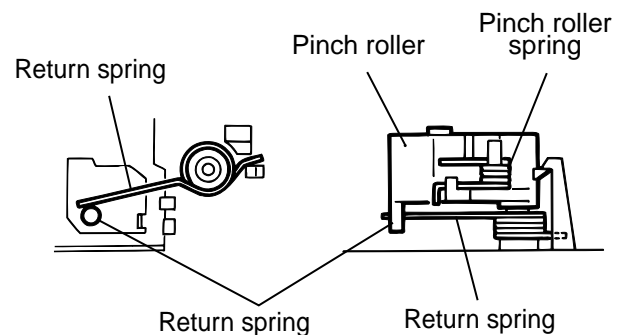

Fig.4
2. When reassembling the pinch roller, refer to fig. 4 to hook up the spring.